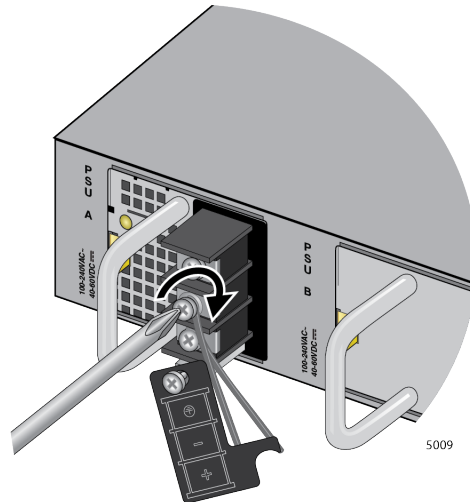

Figure 49. Tightening the Screw for the Negative (-)
4. Wind the power wire and tighten the screw. Refer to Figure 49.